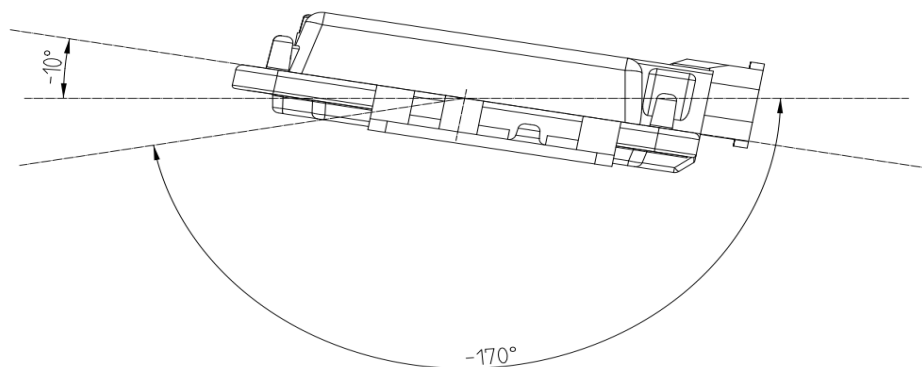

Figure 13 Horizontal Installation Angle
7. ZCU should be installed in the horizontal and vertical position according to the connector downwards and maintain a certain angle to prevent water from entering the connector. In the horizontal direction, the recommended installation angle is  $-170^{\circ}$  to  $-10^{\circ}$ , as shown in Figure 13 below. In the vertical direction, the recommended installation angle is  $-170^{\circ}$  to  $-10^{\circ}$ , as shown in Figure 14 below.